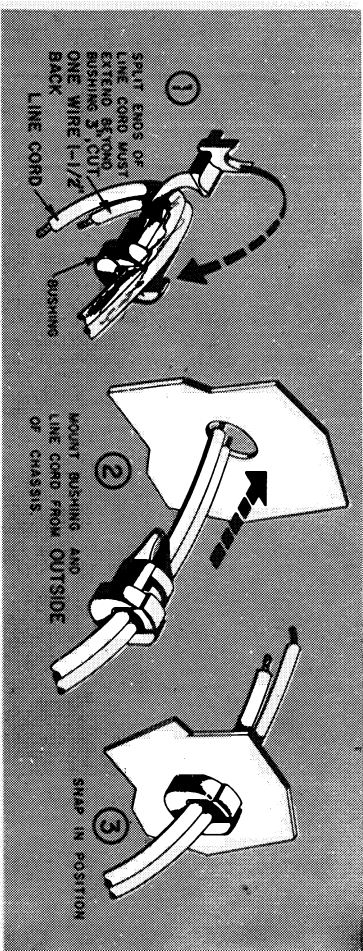

FIGURE 19. LINE CORD MOUNTING
- ☐ Line cord and bushing. Mount as shown in Figure 19. Cut $1\frac{1}{2}$ " from one lead. Strip the insulation back $\frac{1}{4}$ ". Solder the long line cord lead to terminal 5 of TS-7 (2 wires). Solder the short line cord lead to terminal 2 of the fuse holder.